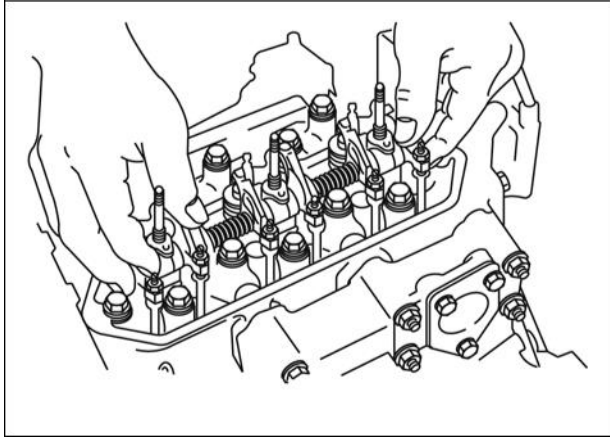

Figure 31
6. Install valve stem caps on valve stems. Install rocker arm assembly (Figure 31).